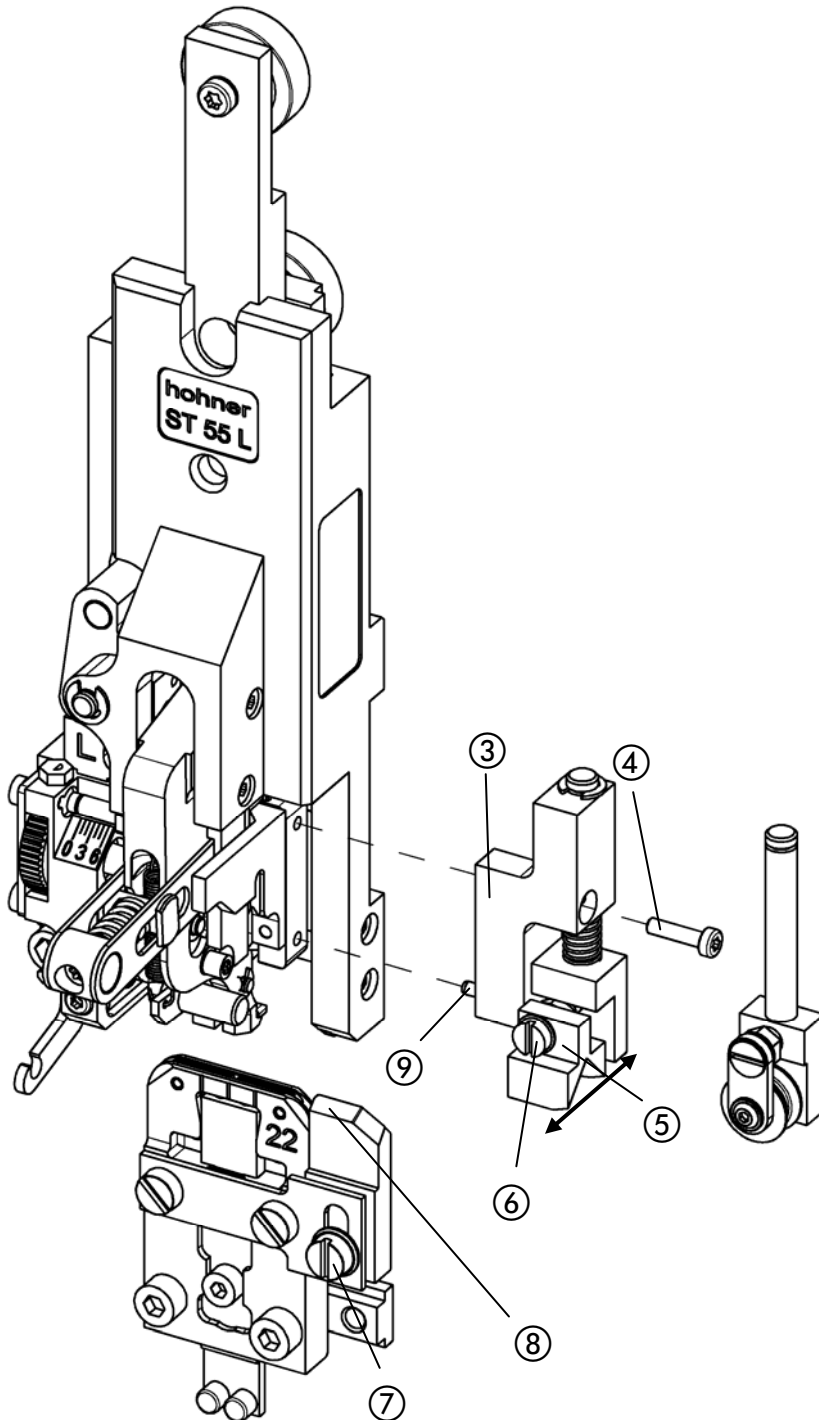

Fig. 16
- Fig. 16 -
- In order to install the holding down device ⑪, insert the guide pin into the borehole on the bender and tighten the fastening screw ⑫.
- The centering prism ⑮ can be moved back and forth by turning the adjusting screw ⑭.
- Move the centering prism ⑮ backward or forward until it is precisely aligned with the prism of the slider ⑯.
- Adjust the height of the prism ⑮ (approx. 0.5 mm above the clincher box) by moving it in the slot and tighten the fastening screw ⑰.